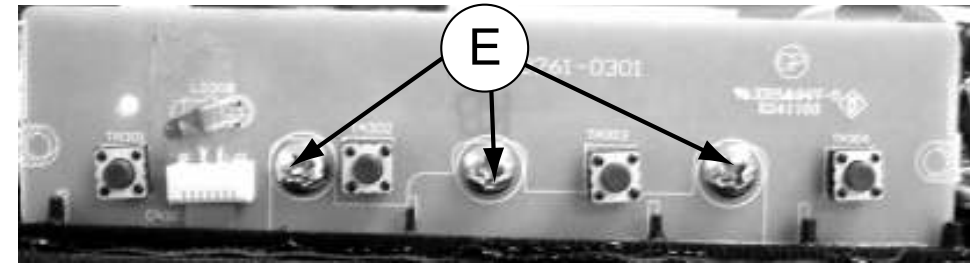

Figure 5
- 1) Loosen 3 screws "E" to remove the Key Board as shown in figure 5.